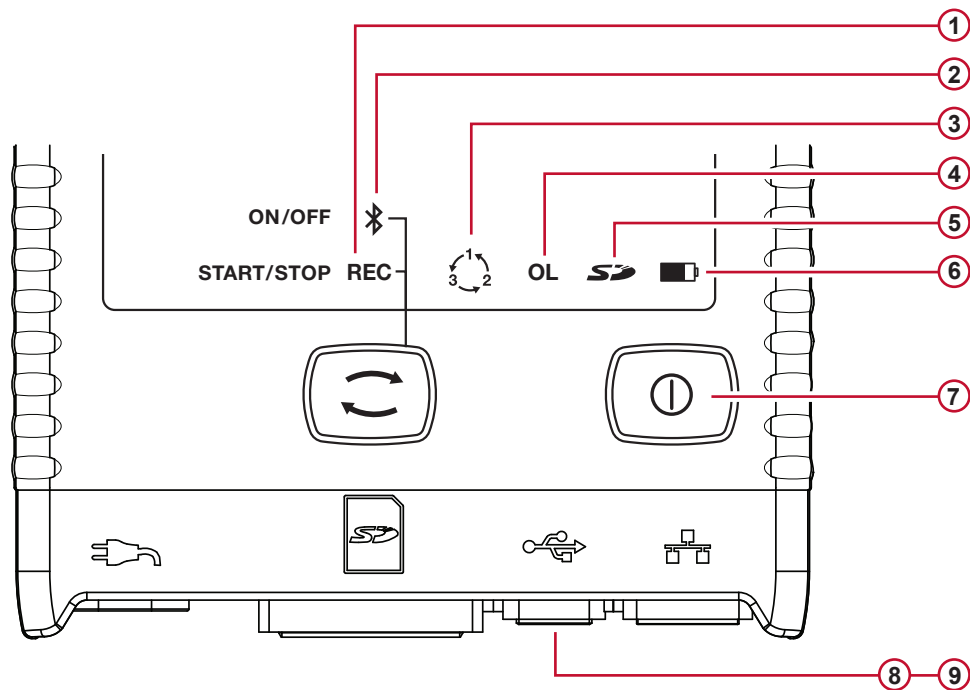

Figure 11
- The green REC LED (see #1 Figure 11) lights up for 3 s, followed by the blue Bluetooth LED (see #2 Figure 11) for 3 s - one after another. During the time each LED is lit you can control its associated function as described below.